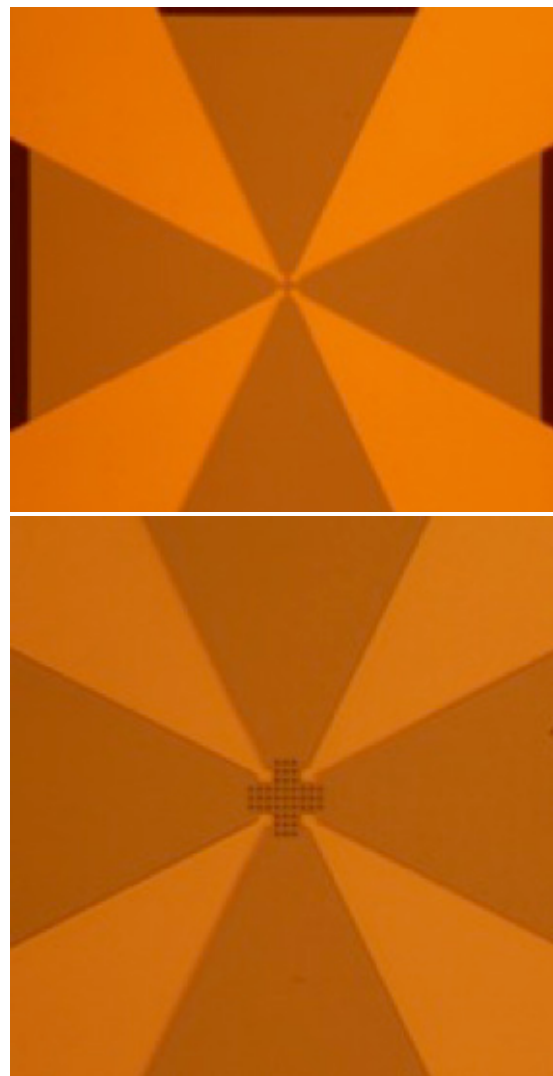

Figure 5.
**Figure 5.** Light microscope images of the silicon nitride membrane area on an electrical E-chip. In the top image the triangular shaped features are metal contact pads that were lithographically patterned onto the membrane. The bottom image shows a close up of the same type of pattern but with an array of holes in the center.